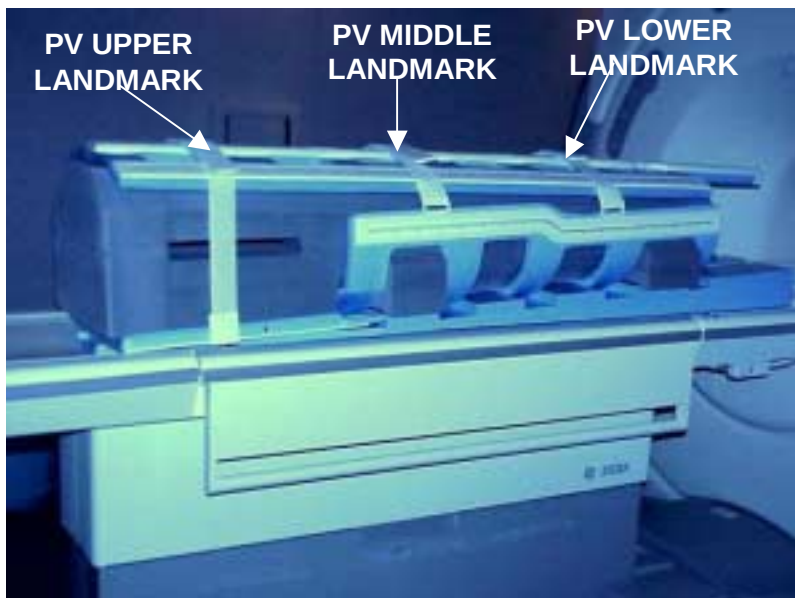

Figure 11: Coil landmarks.
5. For the Upper section, set the landmark on the landmark line that is marked on the upper (head) end of the coil (see *Figure 11*). When scanning the Middle section, set the landmark in the middle landmark line (see *Figure 11*). For the Lower section, set the landmark on the lower landmark line (foot) end of the coil (see *Figure 11*).
6. At the magnet, press the “**Alignment Light**” button to turn on the light. Move the cradle to align the coil to the alignment lights as shown in *Figure 11*. Press the “**Landmark**” button to landmark the alignment.